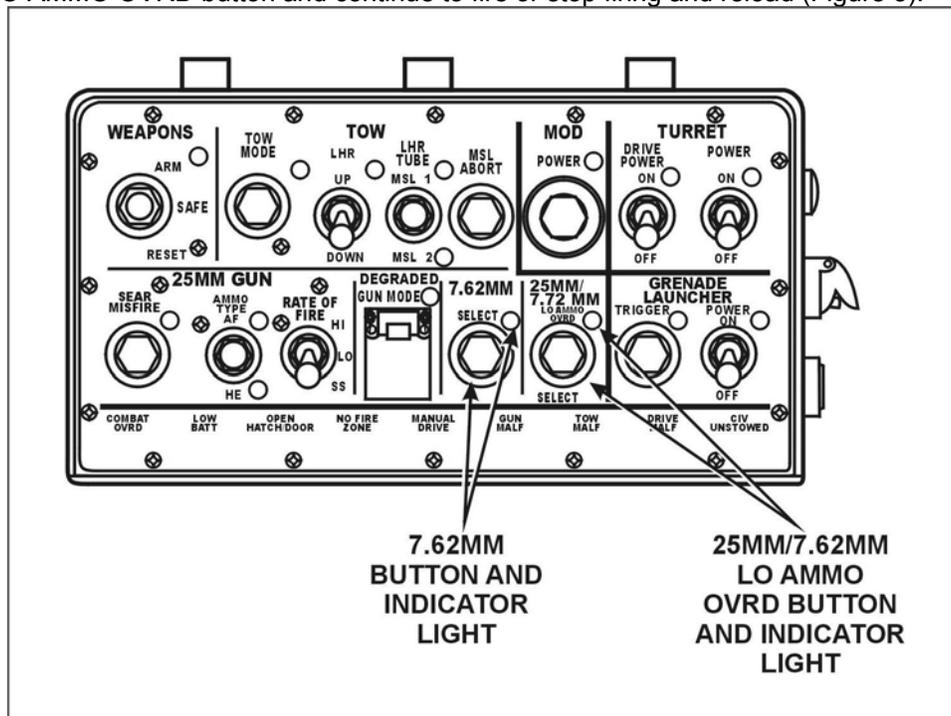

Figure 5. LO AMMO OVRD button.
- p. If the LO AMMO OVRD indicator light flashes on the system control box (SCB), either push the LO AMMO OVRD button and continue to fire or stop firing and reload (Figure 5).
- a. Select 7.62-mm by pressing the 7.62-mm button (refer to Figure 5).